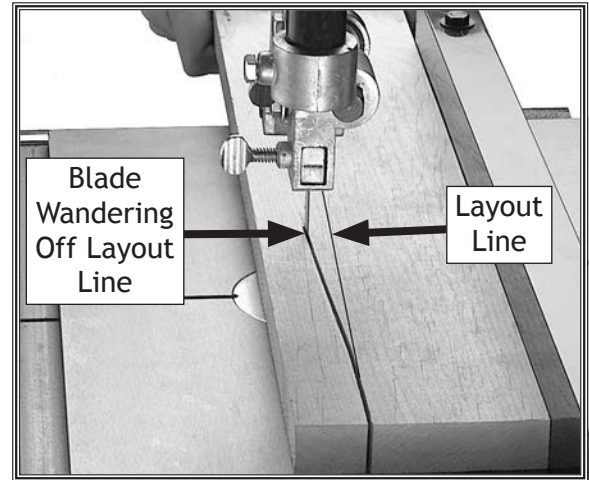

Figure 88. Example of blade lead.
Bandsaw blades may wander off of the layout line when sawing, as shown in **Figure 88**. This is called blade lead.
2. On wide face of board, draw a straight line parallel to long edge, similar to layout line shown in **Figure 88**.